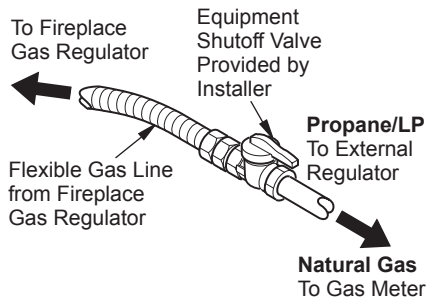

Figure 16 - Attaching Flexible Gas Lines Together
NOTICE: Most building codes do not permit concealed gas connections. A flexible gas line is provided to allow accessibility from the fireplace (see Figure 16). The flexible gas supply line connection to the equipment shutoff valve should be accessible.
4. Attach the flexible gas line to gas supply (see Figure 16). Check tightness of flexible gas line attached to gas regulator of fireplace (see Figure 16).